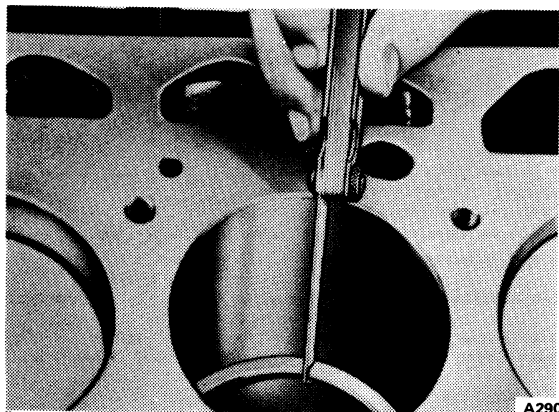

FIG. 27 Checking Piston Ring Gap
5. Measure the gap between the ends of the ring with a feeler gauge (Fig. 27). If the ring gap is less or greater than the specified limits, try another ring set.